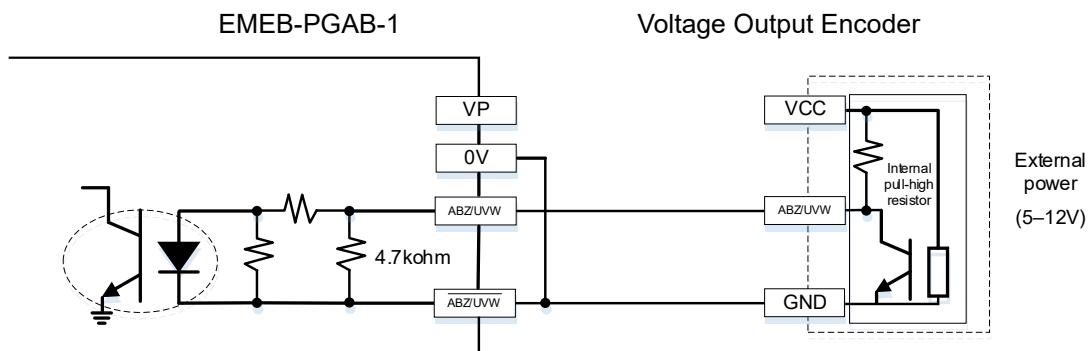

Figure 3-25
2. Voltage output encoder application: Each set of input current is 5–15 mA. If input voltage uses 12V power, connect the encoder power externally. See the PG wiring Figure 3-25 below.